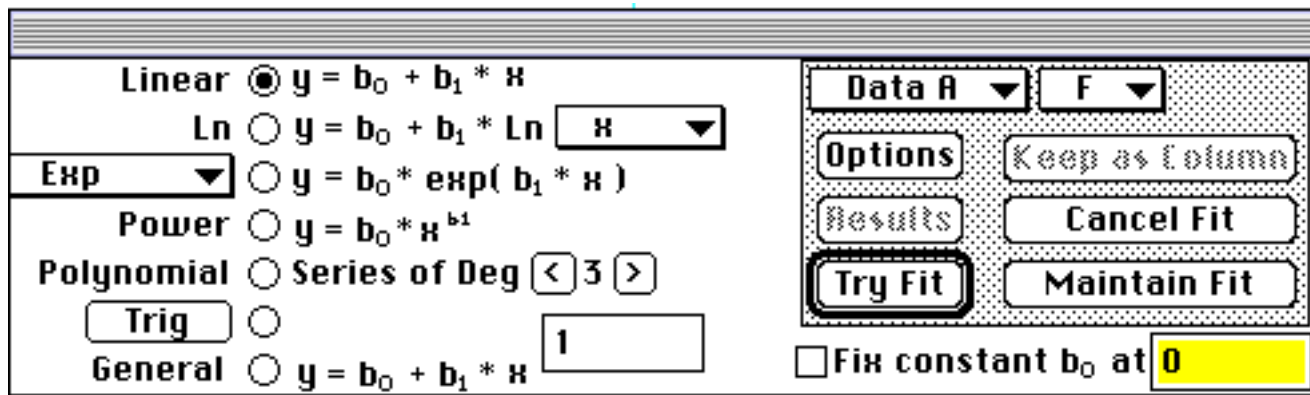

Figure 5. Window for defining the fitting function for Activity 1
- Select **Fit...** under the **Analyze** menu. A window like that in Figure 5 will appear.